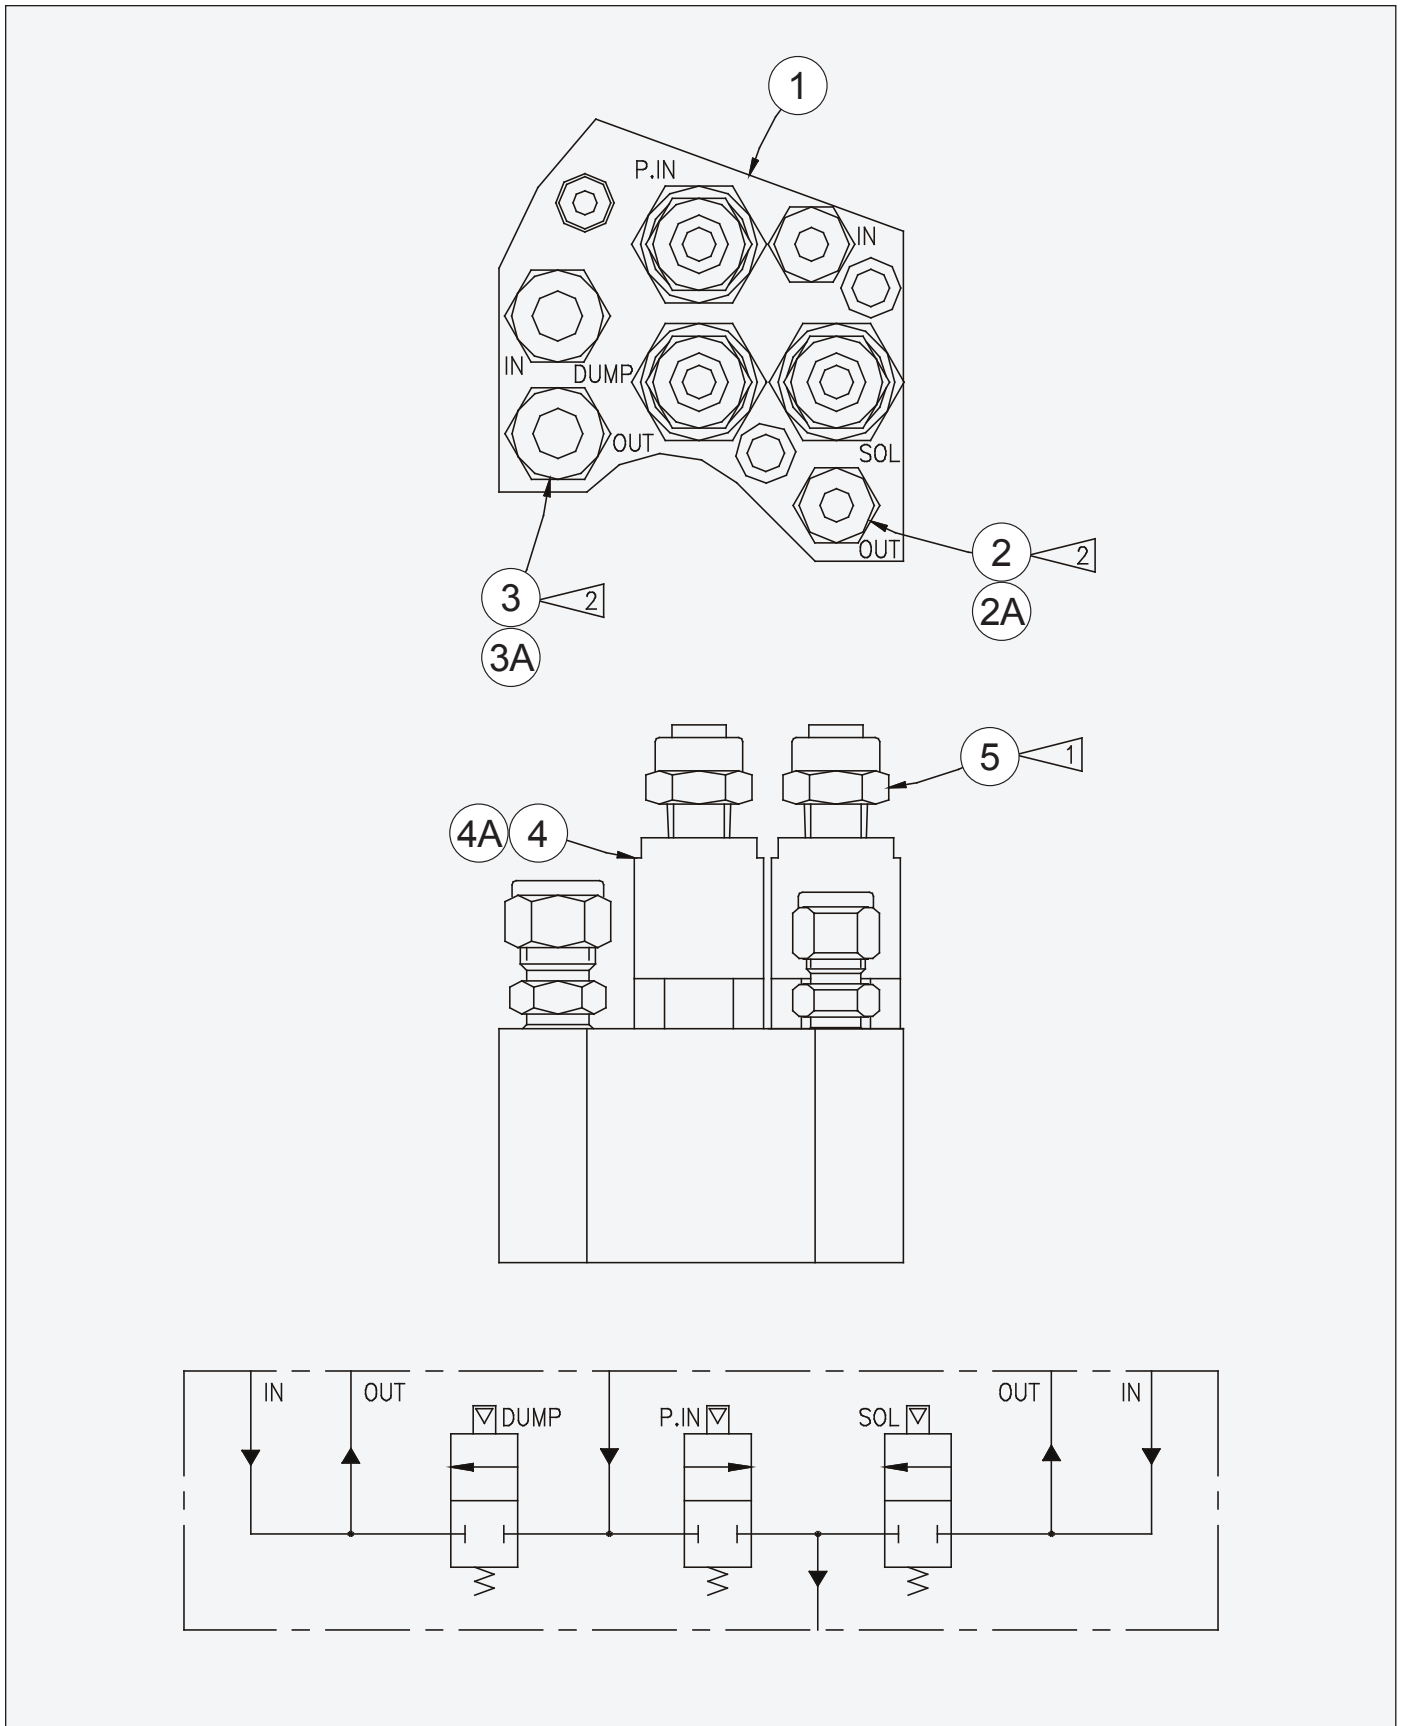

Figure 19: Waterborne Fluid Manifold Assembly
**WATERBORNE FLUID MANIFOLD ASSEMBLY - PARTS LIST (Figure 19)**